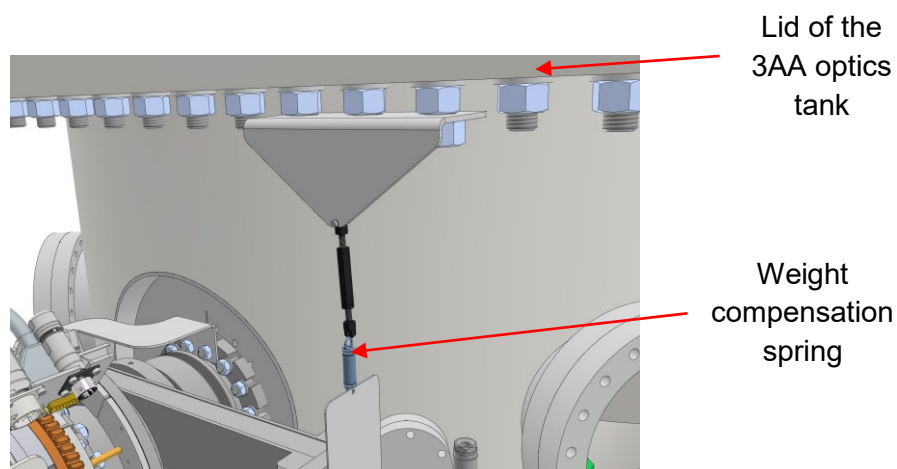

Figure 37: Gravity compensation spring at the gate valve
22. A gravity compensation spring is available at the gate valve. Please attach /mount it at the 3AA chamber lid as shown in Figure 37.